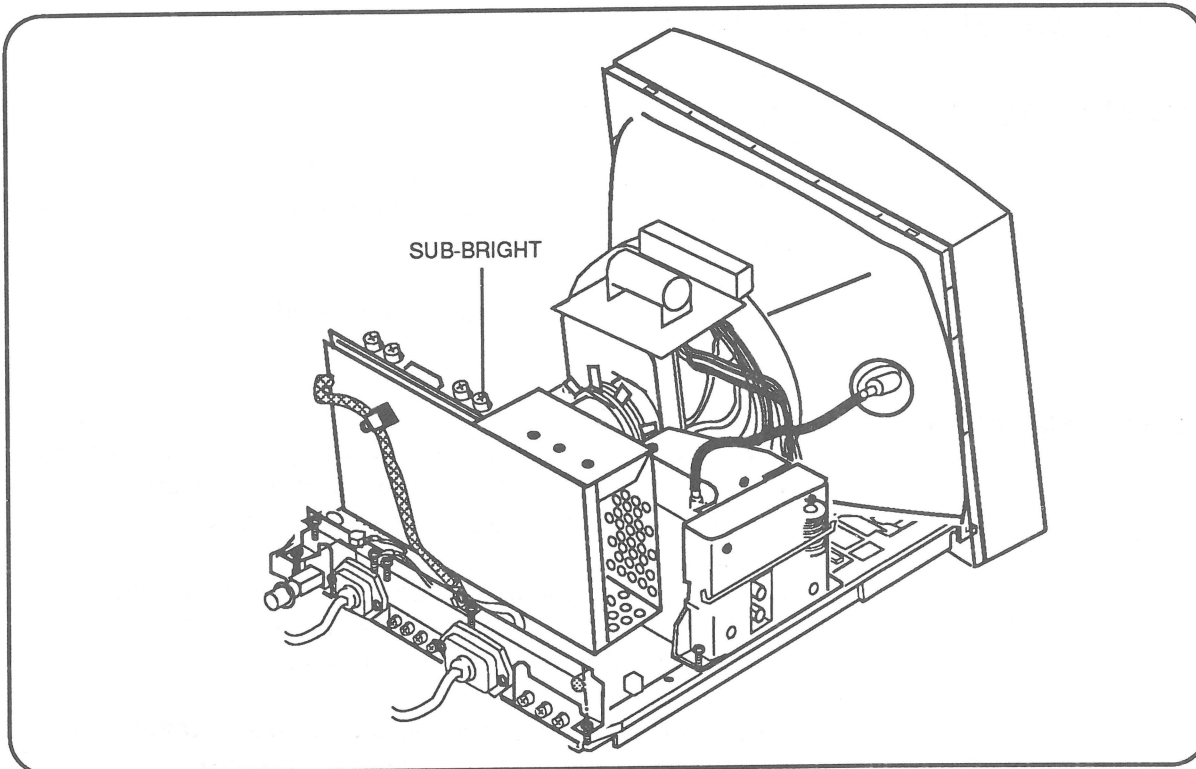

Figure 3-7 SUB-BRIGHT Control
5. **Figure 3-7.** Turn the SUB-BRIGHT control (VR202) all the way down (counterclockwise).